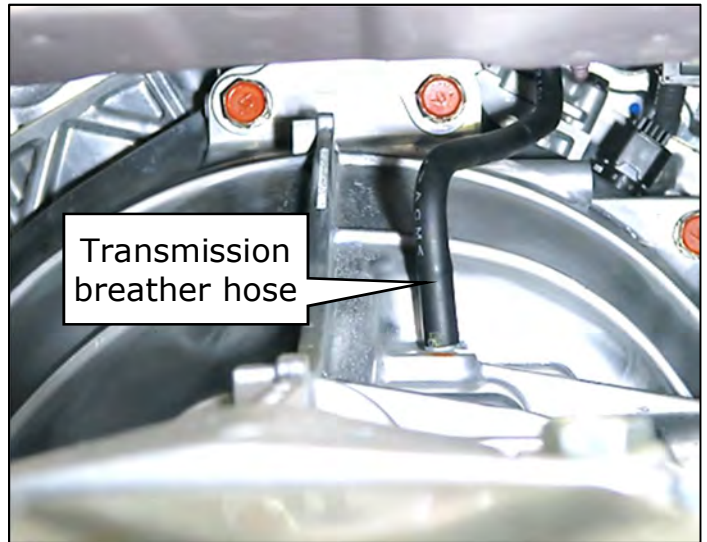

Figure 75
76. Reconnect the transmission breather hose. (Figure 75)